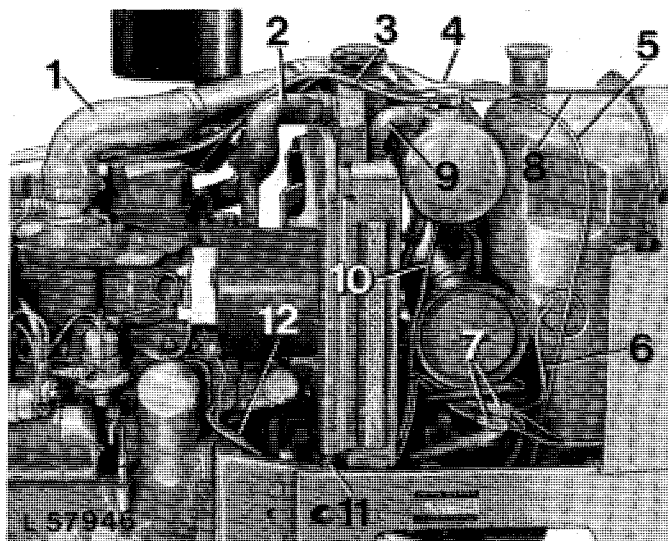

Fig. 1 — Separating between Tractor Front End and Engine
Disconnect air intake hose 1 (fig. 1) at engine intake manifold and at air cleaner.
*Only on tractors equipped with oil cooler:* Remove hose elbow 9 (fig. 1) between hydraulic oil reservoir and oil cooler at oil cooler end. Disconnect return oil line 11 at bottom of oil cooler.
*Only on tractors equipped with oil cooler:* Connect hose elbow between hydraulic oil reservoir and oil cooler at top of oil cooler and return line at bottom of oil cooler (see fig. 1).
*Only on tractors not equipped with oil cooler:* Connect oil line to oil reservoir and tighten both hose clamps (see fig. 1).